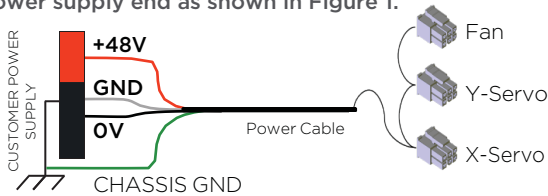

Figure 1
2. Find the power cable in your shipping package. Connect the color-coded wires of the power cable to the power supply as shown at the left side of Figure 1. **Make sure that the GND (White) and 0V (Black) are tied to the Chassis Ground (Green) at the power supply end as shown in Figure 1.**
3. Connect the daisy-chained power connectors at the other end of the power cable to the servo boards and fan in the order shown at the right side of Figure 1. Make sure that the first connector in the chain goes to the X-Servo and the last connector goes to the fan.